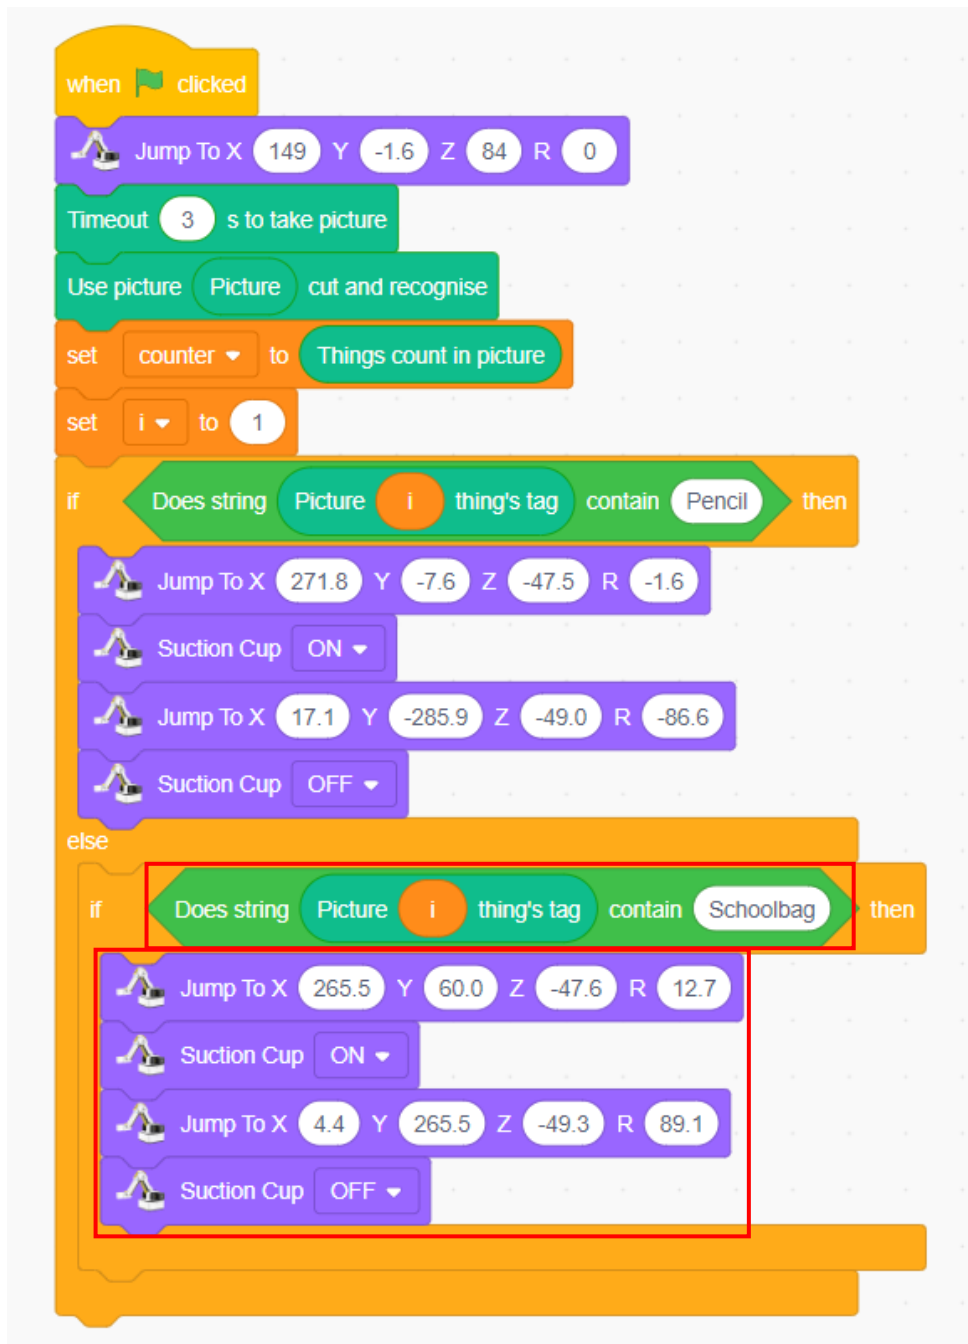

Figure 4.31 Placing the schoolbag
Step 4: Make the robotic arm place the schoolbag to where it belongs if the label is recognized as schoolbag, as shown in Figure 4.31.